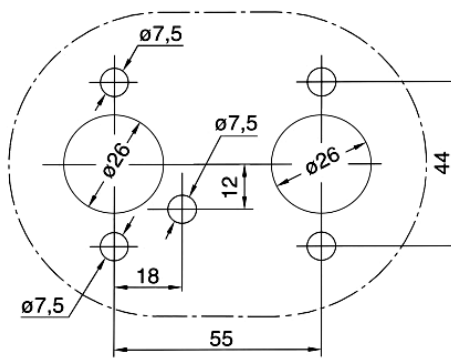

Fig 10
4.2.3 Good sealing is necessary between the main heater and the installation surface on the vehicle. A special gasket (as shown in Fig. 10) supplied by the manufacturer must inserted in between during installation. The installation surface must be smooth and steady enough. Its parts at the installation bases of the main heater shall have unevenness of less than 1mm. After drilling installation holes, evenness must be improved according to this requirement. At installation, please rotate the four M6 nuts, which provided by the manufacturer should be tighten. The torque for tightening shall be 6Nm+1Nm.
Please refer to Fig. 10 for positions of installation holes.